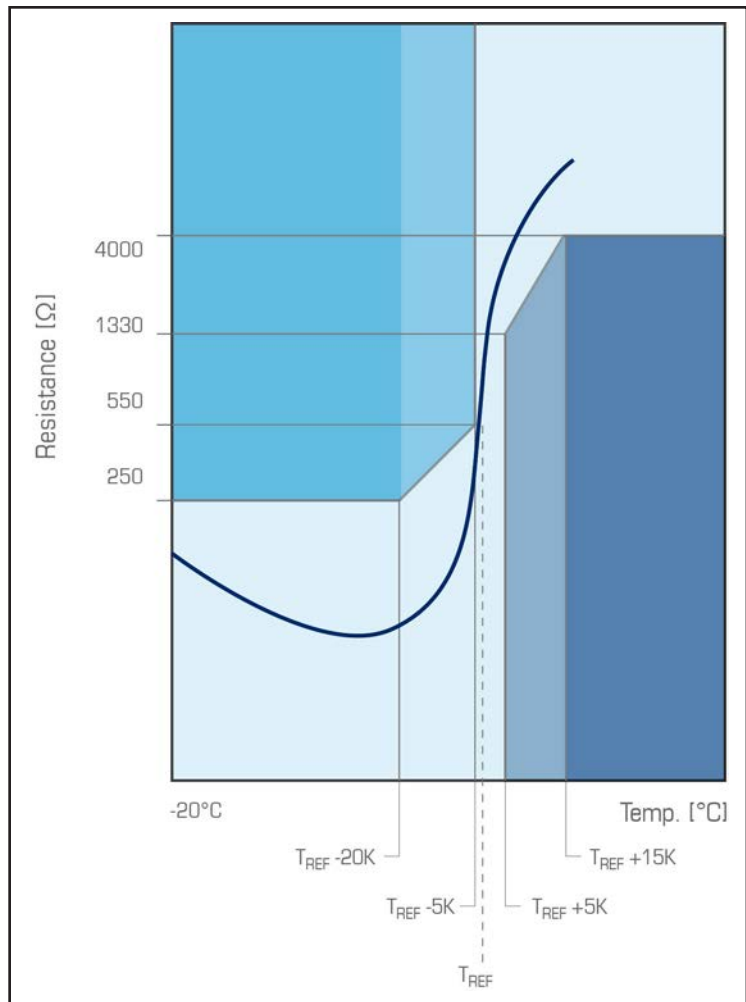

Figure 3 SNM sensors are typically used in low-voltage circuits.
**SNM.** An SNM sensor is typically used in low-voltage circuits and is meant to be connected to a controller working at an electronic voltage level typically around 5 VDC. Like a KTY sensor, it outputs a resistance value based on the temperature, but the change is a lot sharper (Fig. 3).